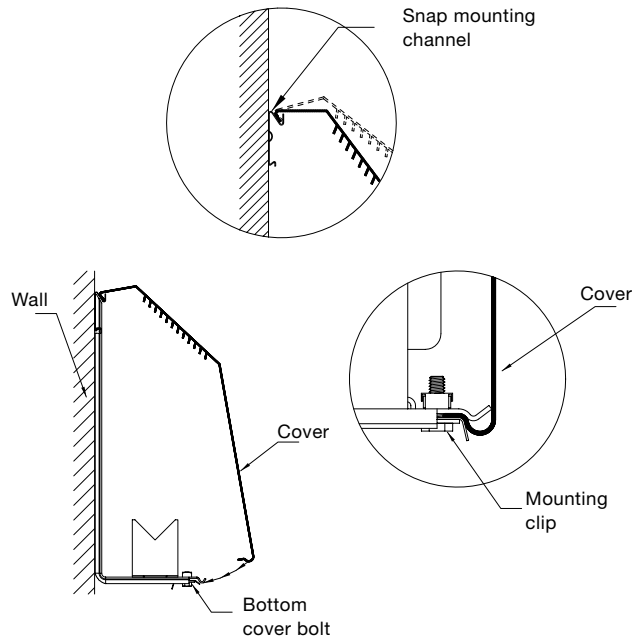

Figure W-7
7. Install the cover as shown. (Figure W-7) Tighten the mounting clip bottom bolt to secure the cover in place.